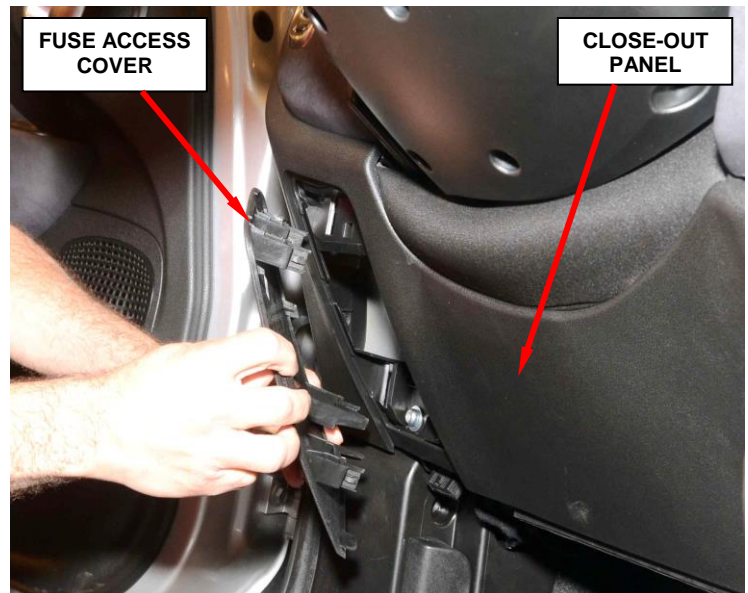

Figure 1 – Fuse Access Cover
2. Remove and save the fuse access cover from the steering column close-out panel (Figure 1).